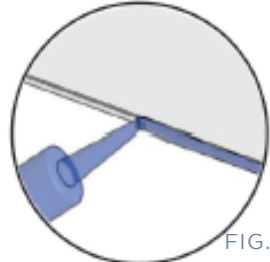

FIG.29
- Remove shelf and put a thin bead of adhesive down both edges of shelf (FIG 29)